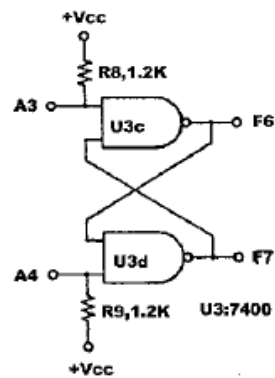

Figure 1.1: R-S Flip-Flop
1. Make connections as indicated in **Figure 1.2** on block a, to construct the circuit shown in **Figure 1.1**.